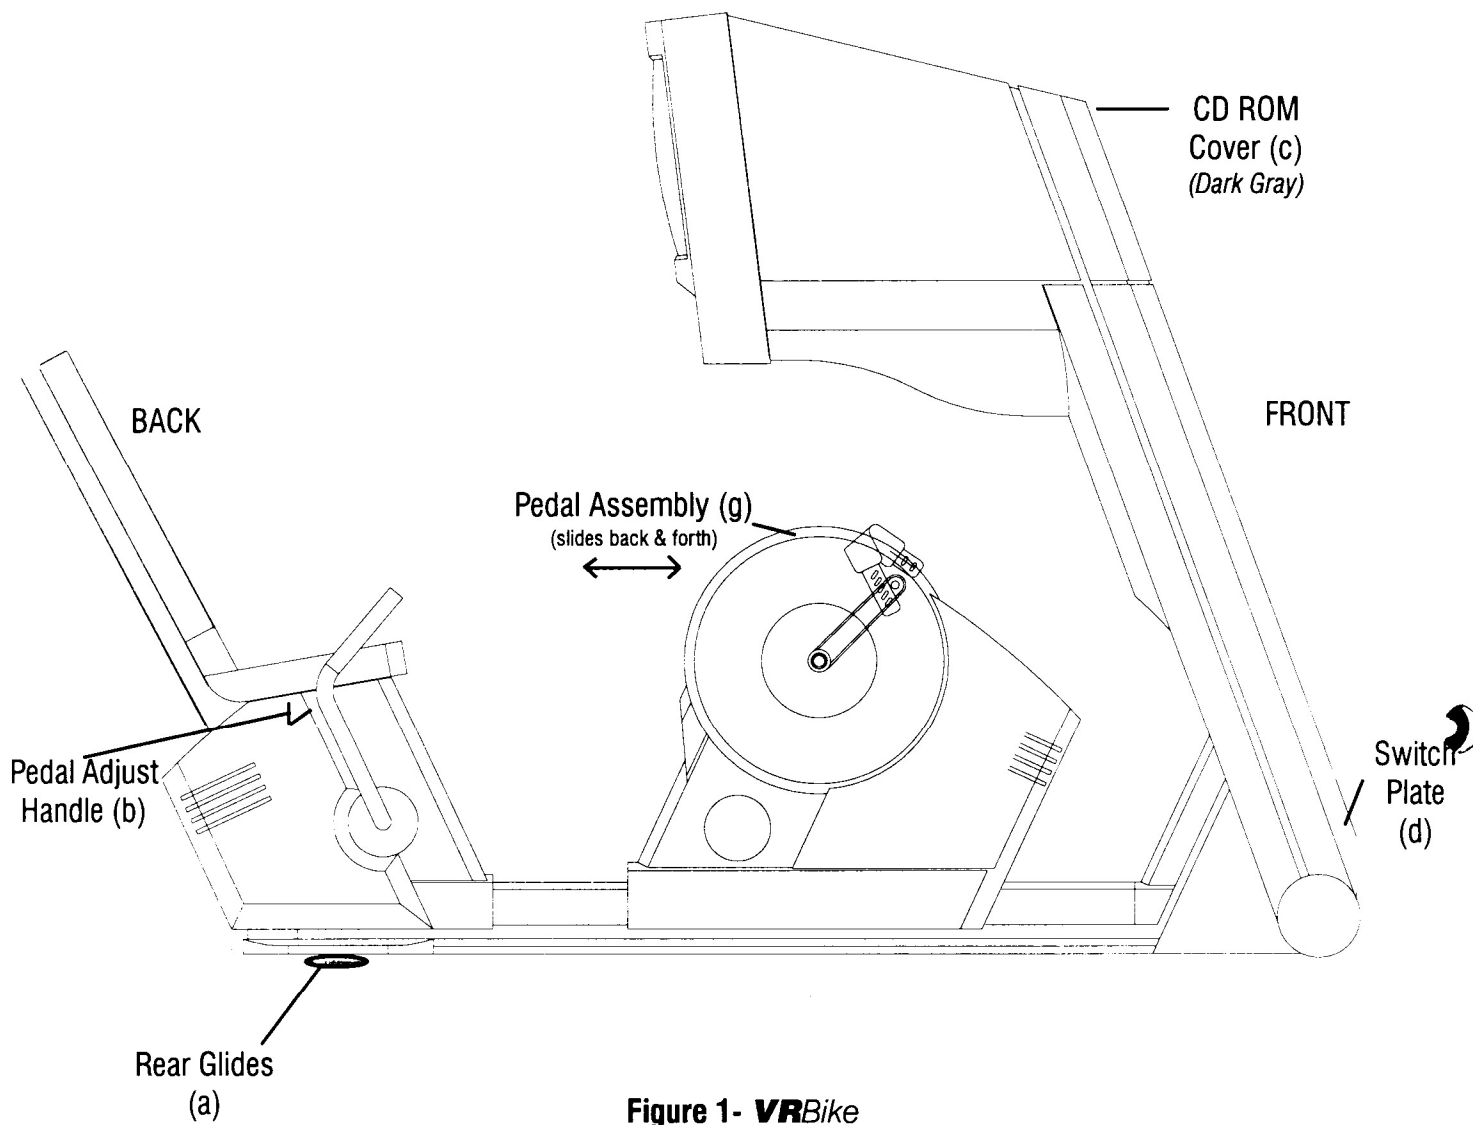

Figure 1- VRBike
The switch plate (d) is located at the lower front of the bike (see Figure 1). The standard power cord provided is plugged into the Power In receptacle and the other end to a wall outlet.
2. Slide up the dark gray panel (c), Figure 1, to expose the CD-ROM drive.
Unlike most exercise bikes, the VRBike requires you to **move the pedal assembly** (g), Figure 1, rather than the seat to accommodate different size riders. This was done to ensure that every rider's eyes are in the proper position relative to the screen. There are 17 pedal positions marked along the central beam between the seat and the pedals. Seated in the proper position, the extended leg should still be slightly bent at the knee.
In order to move the pedal assembly, pull up on the blue pedal-adjust handle (b), located just under the right side of the seat (see Figure 1). The pedals will automatically move towards the seat when the handle is lifted. Release the handle when the pedals are in the proper position and gently move the pedals until the latch snaps into place.
Picture quality may be adjusted using the monitor controls located above the CD-ROM drive. If there are problems with the picture, raise the CD-ROM Cover (c), Figure 1, and adjust the controls.